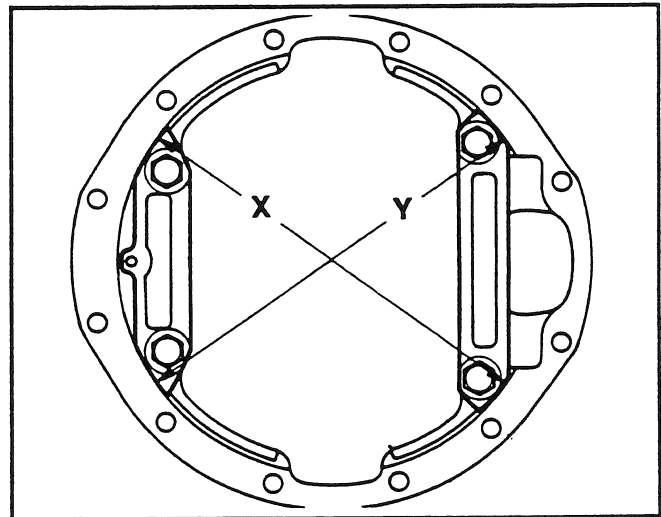

Fig. 69
- b) Measure the distance X or Y between opposite surfaces of the bearing caps. Use a large micrometer of the correct size (see Figs. 69 and 70). Note the measurement.